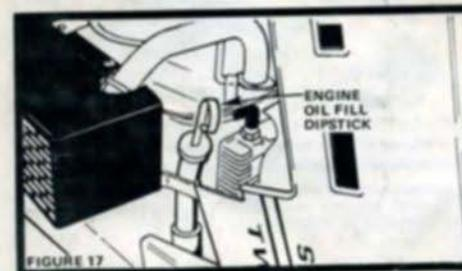

FIGURE 17
- Refill Engine Oil (Fig. 17). In summer use S.A.E. 30 (SC, SD or SE) Oil. In winter (below 32°F.) use S.A.E. 10W30 (SC, SD or SE) or 10W40 (SC, SD or SE). In extreme cold (below 0°F.) use S.A.E. 5W20 (SC, SD or SE). Capacity is 3 - 1/2 pints without Oil Cartridge change. **NOTE: DO NOT OVERFILL.**
Several minutes after stopping Engine, check Engine Oil Level with Tractor on level ground. Wipe dipstick (Fig. 17) clean, push it down tight for a few seconds, remove and read Oil Level. If necessary, add Oil until "FULL" mark is reached. In summer use S.A.E. 30 (SC, SD or SE) Oil. In winter (below 32°F.) use S.A.E. 10W30 (SC, SD or SE) or 10W40 (SC, SD or SE). In extreme cold (below 0°F.) use S.A.E. 5W20 (SC, SD or SE). NOTE: DO NOT OVER-FILL.